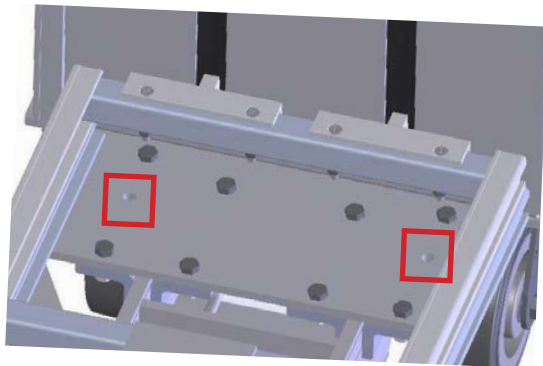

Figure 2
- 3) Slide the bulk head (A) into position on the base plate in the location shown in Figure 2.
- 4) Fasten in place using the two screws (I) and lock nuts (F) and finger tighten (the screw heads will be on top of the base plate and the lock nuts underneath).
- 5) Place the bulk head saddle plate (B) into position and attach using the four 1/4"-20 x 2-3/4" long screws (G) and 1/4"-20 lock nuts (H) and finger tighten.
- 6) Place the containment strap mounting spacer (D) onto the bulk head saddle plate and then place the containment strap assembly (C) onto the mounting spacer. Insert one 3/8"-16 x 1-1/2" long screw (E) and 3/8"-16 lock nut (F) and securely tighten using the two 9/16" wrenches.